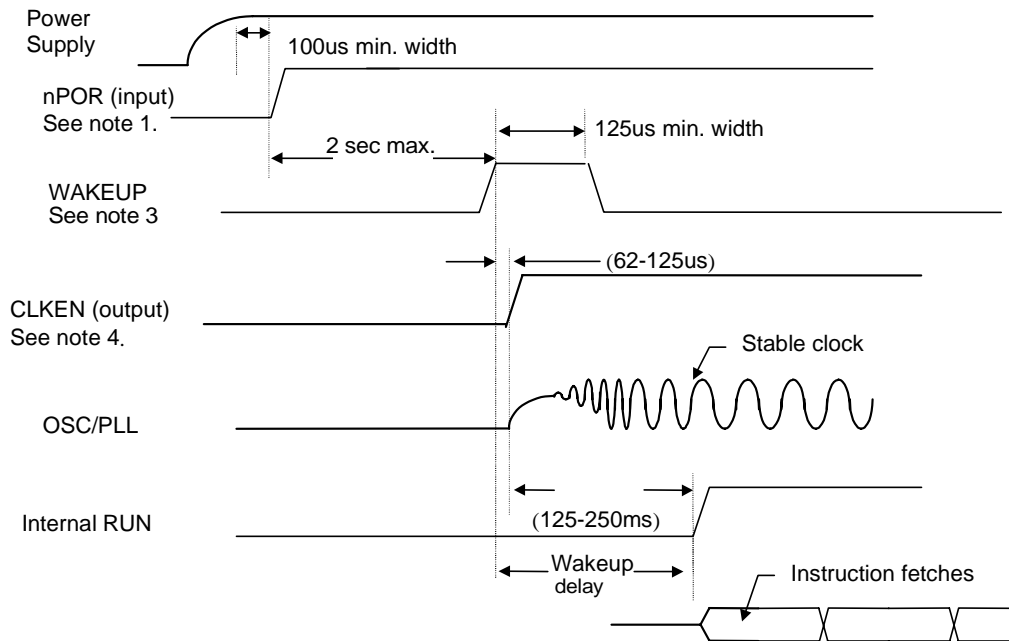

Figure 3. Timing Diagram for the Case of a Cold Boot
- Figure 3. Timing Diagram for the Case of a Cold Boot 8